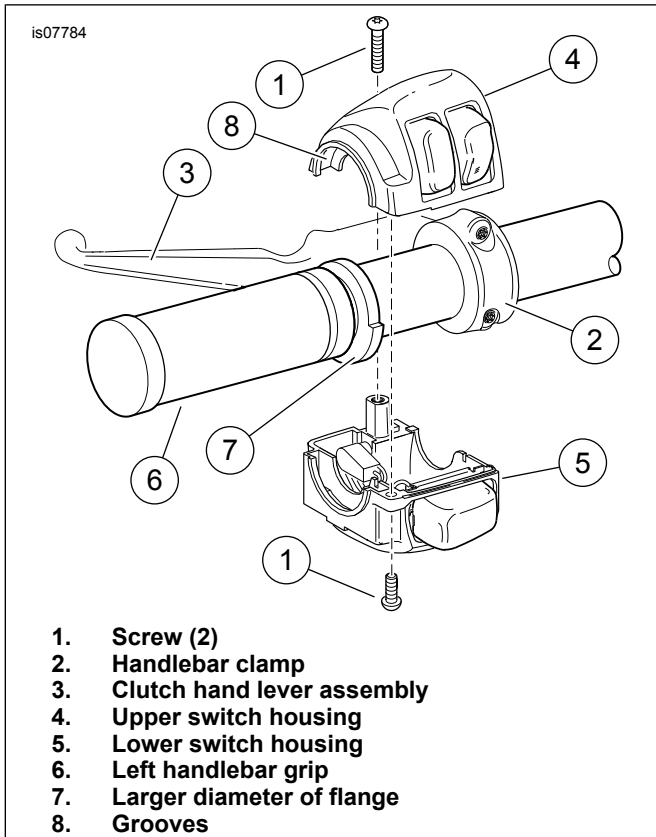
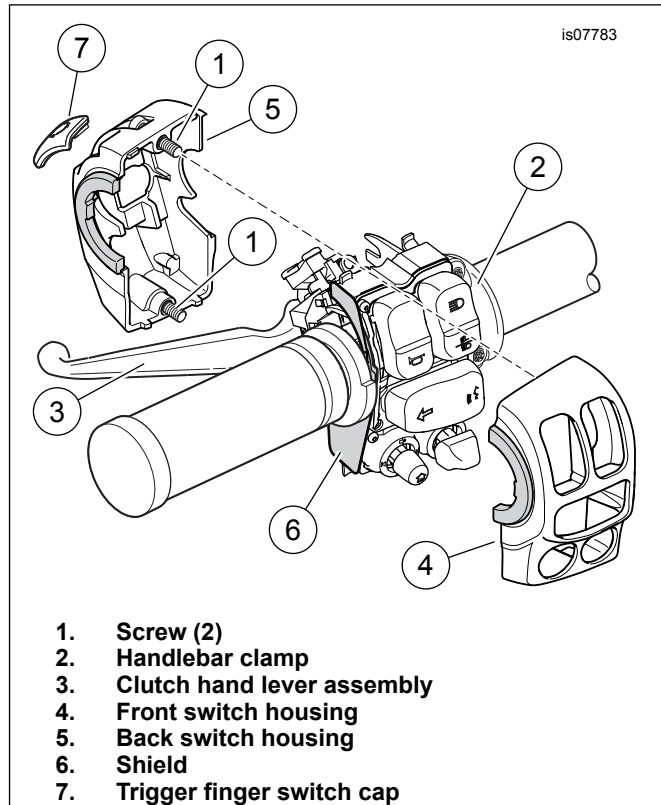

Figure 1. Left Handlebar Switch Housing (2008-2013 Touring and 2006-Later Softail)
Figure 2. Left Handlebar Switch Housing (2014-Later Touring)
- a. Refer to Figure 1 or Figure 2. Loosen two screws (1) and the handlebar clamp (2).
- b. Position the clutch hand lever assembly (3) away from the switch housing.
1. See Figure 1. Position the left side heated grip (6) so the larger diameter portion of the flange (7) is at the bottom. Push the grip fully onto the handlebar.
- a. Position the lower switch housing beneath the grip. The grooves (8) on the outboard side of the switch housing must fit over the flange on the end of the grip.
1. See Figure 2. **2014-2015 Models:** Verify that the shield (6) is in correct position on the outboard side of the switch module.
- a. Install the switch housing sections (4, 5) onto the switch module. Tighten captive screws (1) until snug.
- b. Install clutch control lever assembly (3).
- c. Install handlebar clamp (2) with two screws removed earlier, but do not tighten.